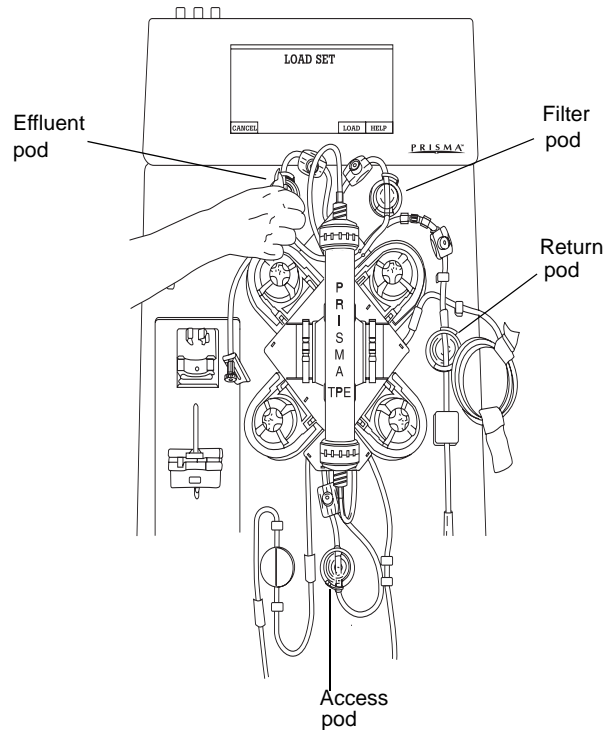

Figure 2-9. Positioning PRISMA TPE Set on the Control Unit
- (d) attaching the pressure pods to the pressure sensor housings. See Figure 2-9.